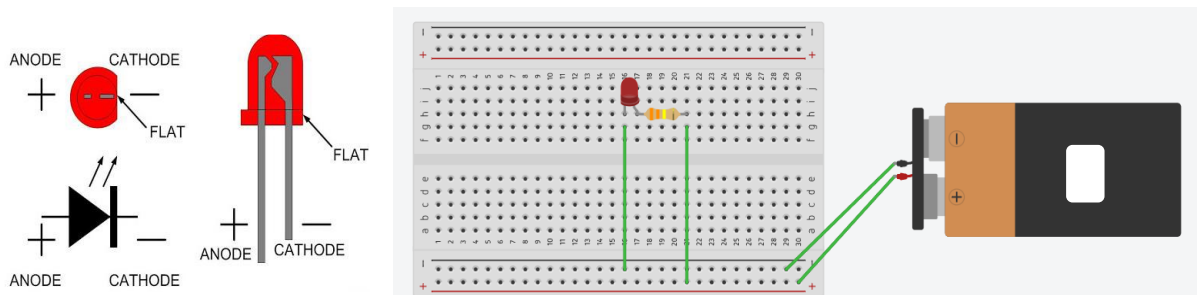

Figure 4. Turn on LED on the breadboard.
- As shown in Figure 4, The LED has two pins, Cathode and Anode.
- Connect the LED cathode to 0 V on the breadboard, as shown in Figure 4.
- Connect the LED anode to one terminal of the 330-ohm resistor, as shown in Figure 4.
- Connect the other terminal of the 330-ohm resistor to the 5v on the breadboard, as shown in Figure 4. You can see the LED is ON.